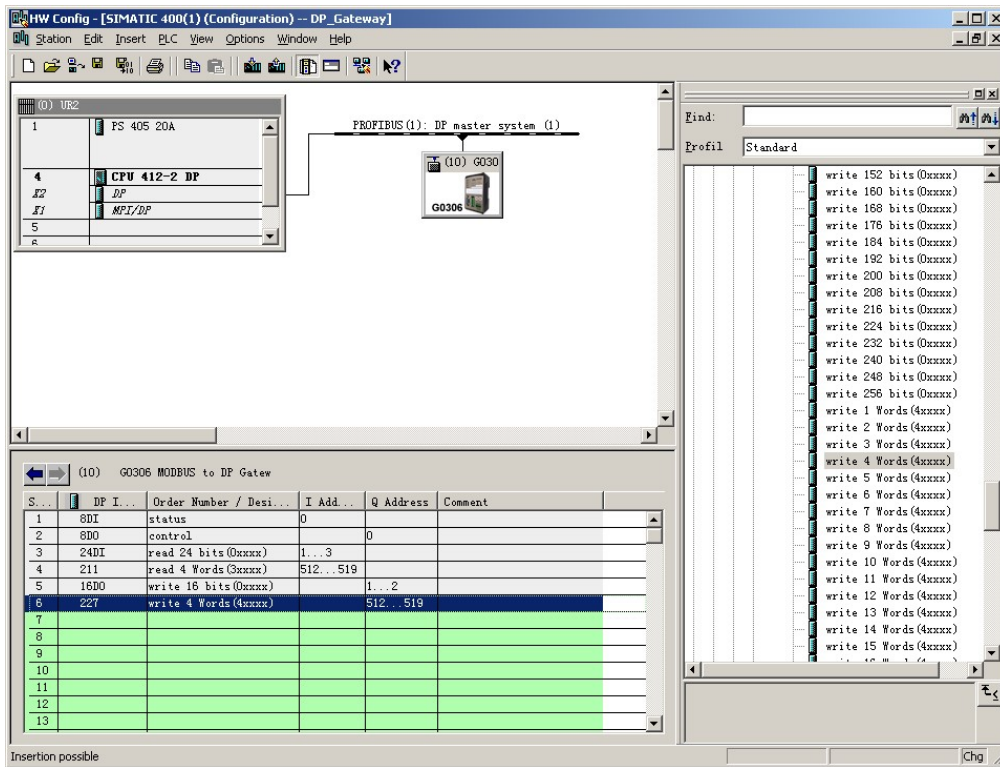

Figure 25 Add "write 16 bits(0xxxx)" module
a) Add "write 4 Words(4xxxx)" Module, as shown in Figure 25: